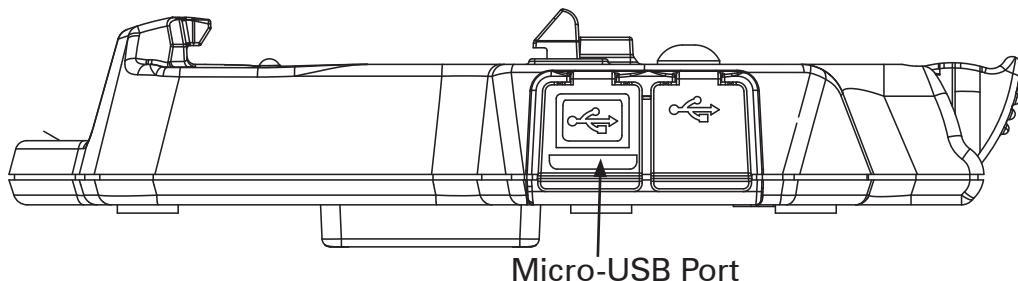

Figure 6: Micro-USB Port
- Connect the PC/Laptop to the cradle Micro-USB port via a micro-USB cable (see Fig. 6).